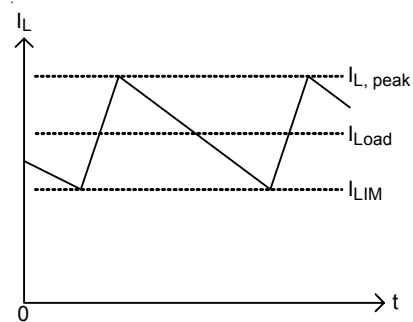

Figure 2. Valley Current Limit
RT8209N/P has cycle-by-cycle current limiting control. The current limit circuit employs a unique “valley” current sensing algorithm. If PHASE voltage plus the current-limit threshold is below zero, the PWM is not allowed to initiate a new cycle (Figure 2). In order to provide both good accuracy and a cost effective solution, the RT8209N/P supports temperature compensated MOSFET RDS(ON) sensing. The CS pin should be connected to GND through